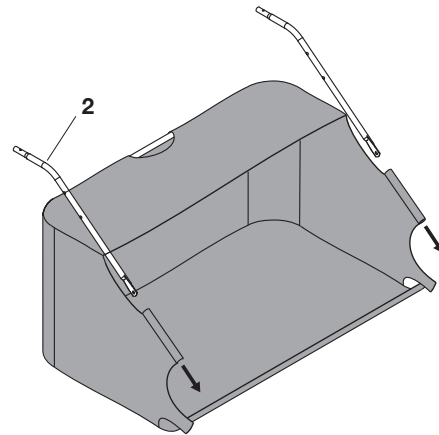

Figure 13
STEP 13: (SEE FIGURE 13)
- Slide the upper hopper tubes (2) into each side of the hopper bag.